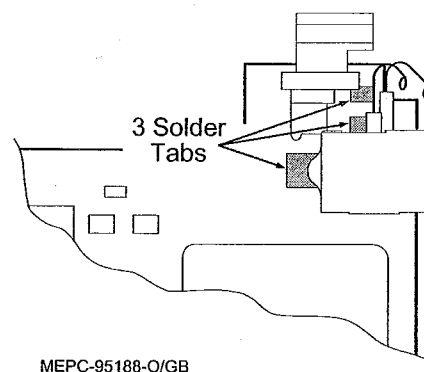

Figure 2.1
2. Refer to Figure 2.1 and use a small heat-focus head to distribute heat over the area occupied by the three solder tabs until the solder softens.
4. Using the same heat-focus head as in step (3), unsolder the RF switch circuit board and remove it from the RF board using forceps.